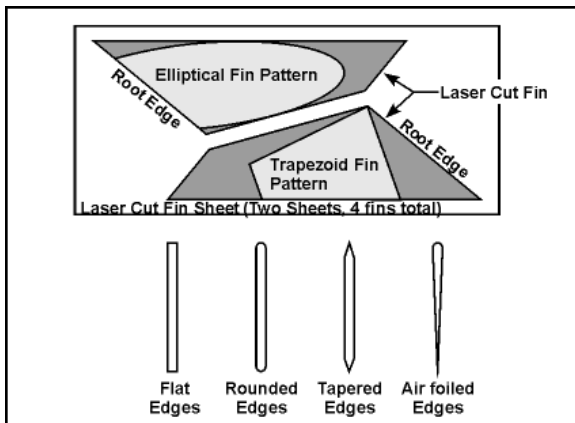

Figure 5
- The **Rhino** kit comes with **Laser-Cut Fins**. In addition to this, your kit also comes with two fin patterns that can be used to cut other shaped fins from the laser-cut fins, to allow you to construct your model with a different look. These instructions assume that you are going to use the fins as is, but the other shaped fins will work just as well. Once you have decided on the fin design that you want, remove the fins and/or cut out new ones and decide how you want to shape the edges of the fins. Referring to **Figure 5**, you can leave the fin edges flat or sand them rounded, tapered, or air foiled, depending on the appearance you want for your model. Just be sure to leave the **Root Edge** (identified below and on the Fin Pattern Sheet on the back of the cover art) **FLAT**.